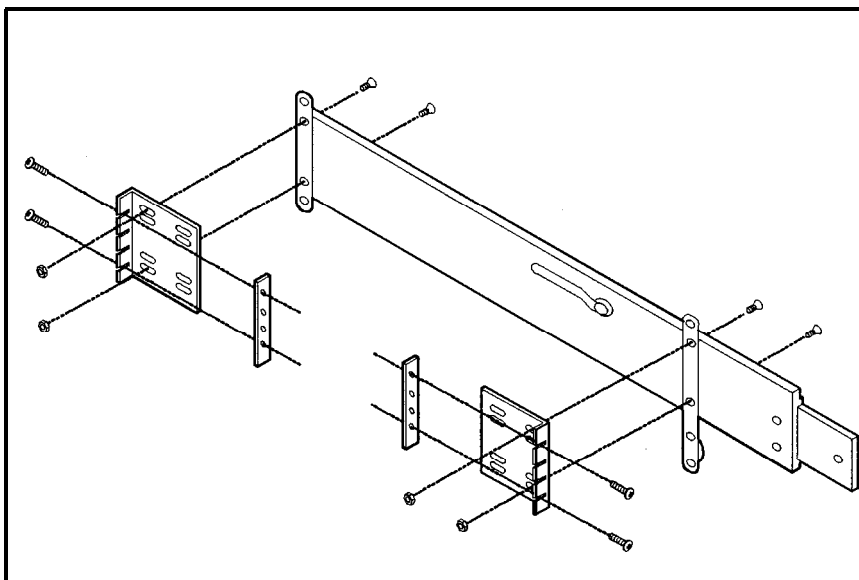

Figure 2-14. Slide Adapter for Non-HP System Rack Cabinets
- Using hole pattern B, see Figure 2-14, attach one adapter bracket to the front of each outer slide mount, using two M4x0.8x12 flat-head screws and nuts per bracket.